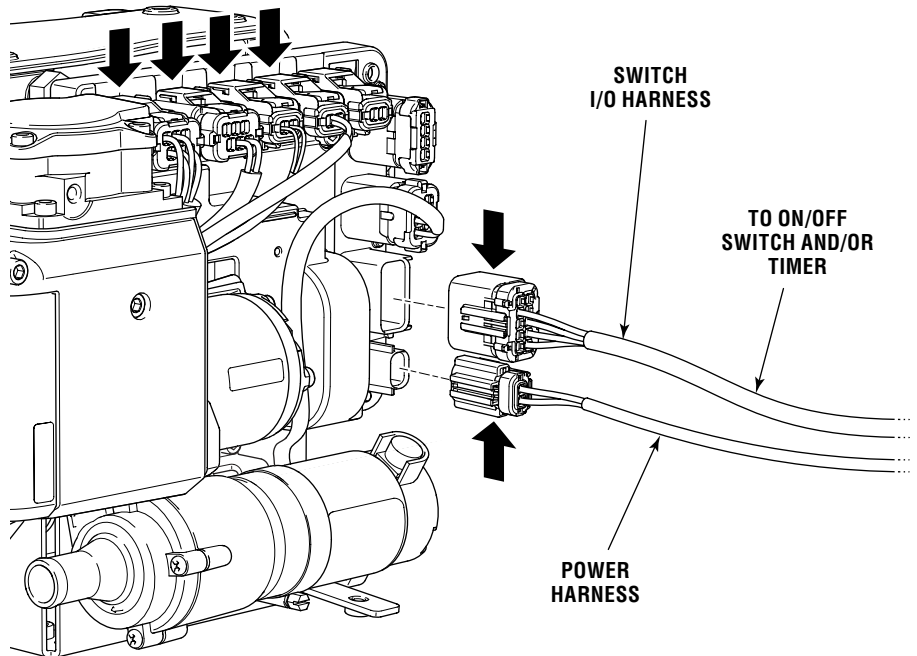

Figure 4-18. Disconnect Harnesses.
- a) Disconnect the power and switch harnesses at the PCM. Disconnect the first four harnesses from the top left of PCM. See figure 4-18.